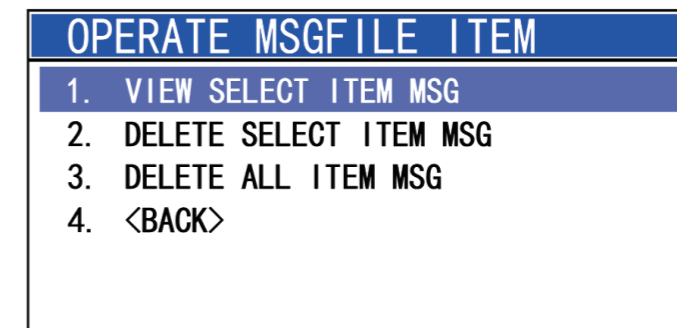

Figure 6.3
- b: Turn the channel knob to select the call to operate on, then press [CH/ENT] to open the call file operation dialog, as shown in Figure 6.3.